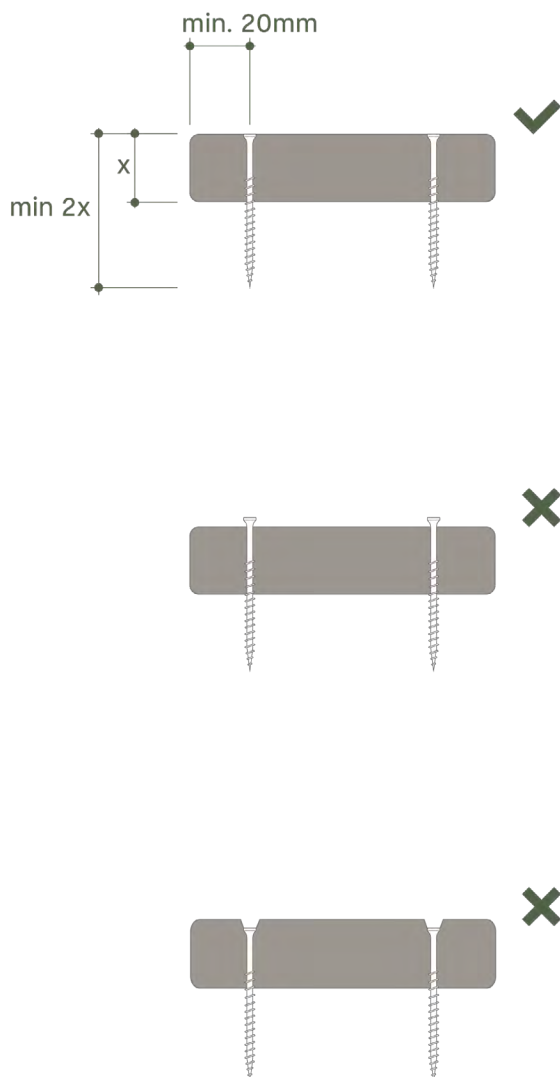

Fig. 1
- Screw heads must sit flush with the surface (see Fig. 1).
The Brofix system does not require any additional tools—an electric screwdriver is sufficient—making installation convenient and easy (see Fig. 1).